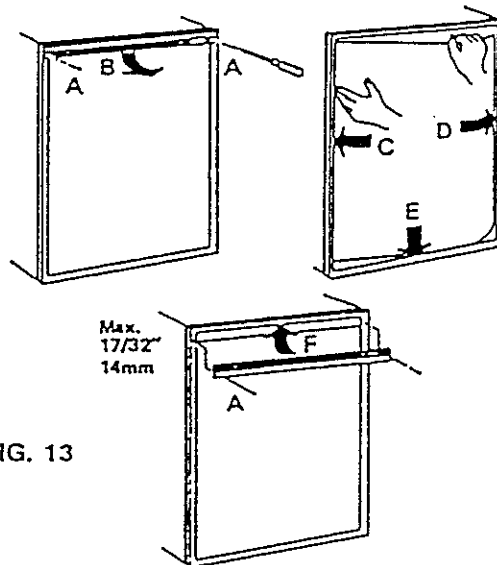

FIG. 13
The refrigerator is normally delivered without the door panels. Before starting the mounting work, check that the panel dimensions are in compliance with those given in the Table on Page 7, and the instructions are read thoroughly. When mounting the panel proceed as follows: (See FIG. 13)
- Decoration strips are taped inside the lower door when delivered. If they are installed on the door, remove the door decoration strip. (B) with its two screws (A). See FIG. 13.
- Insert a vertical edge of the panel into the groove of the door frame (C).
- Bend the panel gently outward and insert the free side into the opposite groove of the door frame (D).
- Push the panel downward until the lower edge of panel is fitted into the bottom groove (E).
- Place the decoration strip across the door so that the gap is covered and push it upward (F). The tabs on the inside of the strip should fit behind the flange. Replace the two screws (A) to complete the installation.